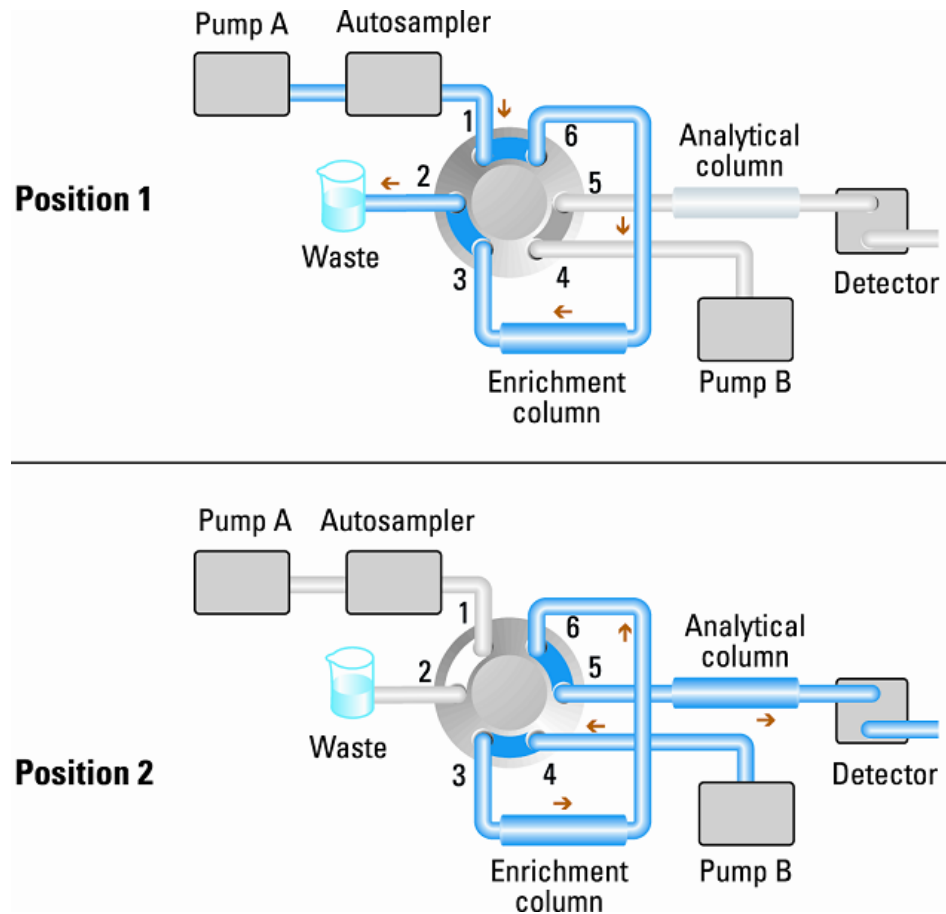

Figure 13 Sample enrichment
i.e. injecting it, onto an analytical column, see Figure 13 on page 70. The valve can be conveniently located in the Thermostatted Column Compartment.